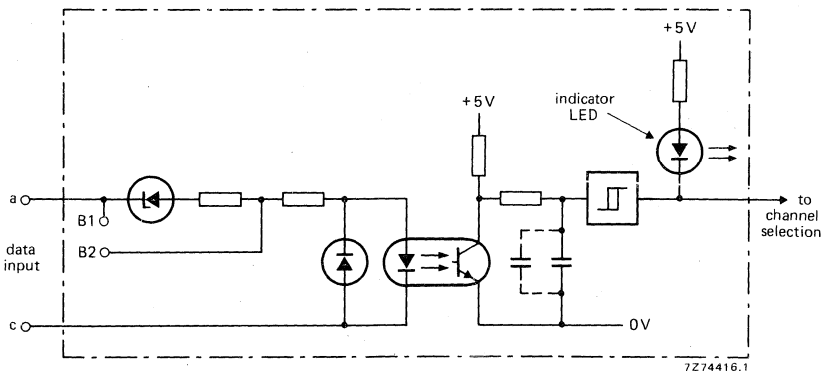

Fig. 1a Circuit diagram of an input stage (IM10).
** By short-circuiting terminals B1 and B2 (see Figs 1a and 1b).